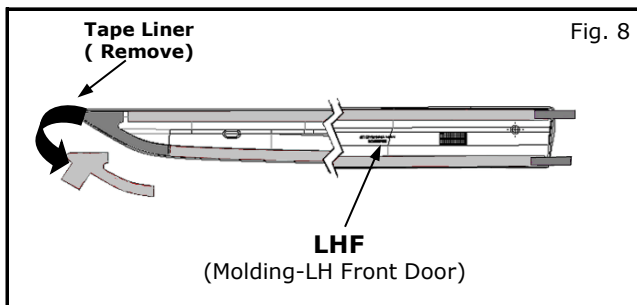

Fig. 8
- 12) Remove die cut tape liner from front end of Molding, as shown in Fig. 8.